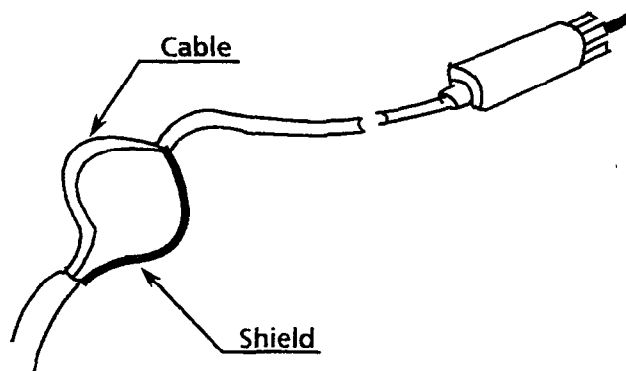

Figure 3-121 MOH Cable Shield Ground Exposed
4.      Bend the cable near the middle of the exposed shield and separate the shield from the inner insulation in preparation for soldering. Refer to Figure 3-121 - MOH Cable Shield Ground Exposed.